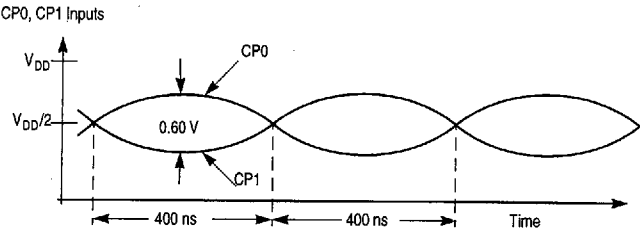

Figure 6-9. Communications Port Signal Input for Table 6.2.8
- 1. CP0 and CP1 inputs each 0.60 V_{p-p}, 1.25 MHz sine wave 180° out of phase with each other as shown in Figure 6-9.